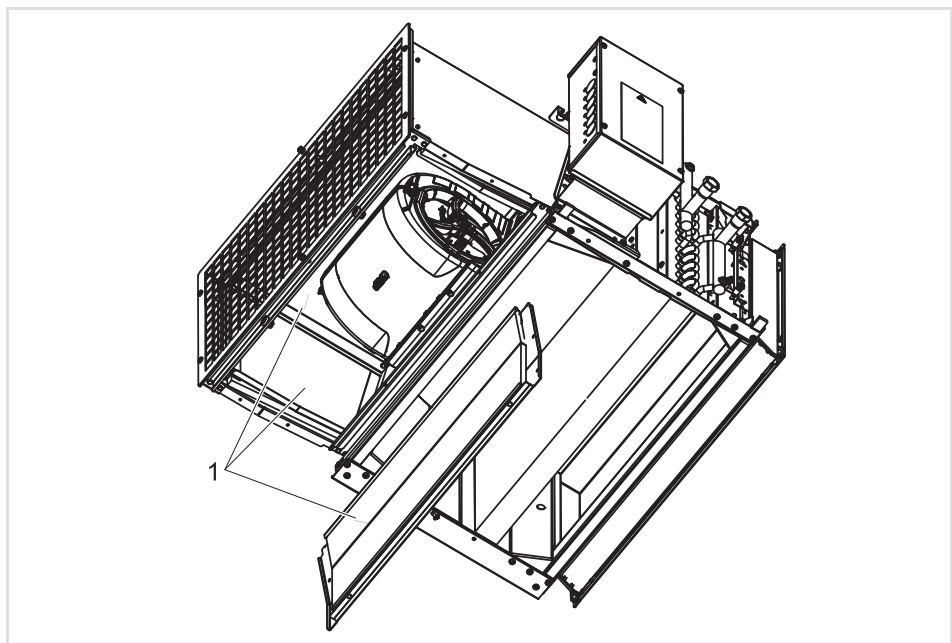

Fig. 8-9: Checking insulation
- Check the inner wall insulation (see Fig. 8-9, Pos. 1, applies only to basic units with fan section type "C") on all sides for soiling/microbial growth. In the event of the strong microbiological contamination of the insulation of type C, please exchange the entire fan section (Spare part No. ZGH.#A0C1).